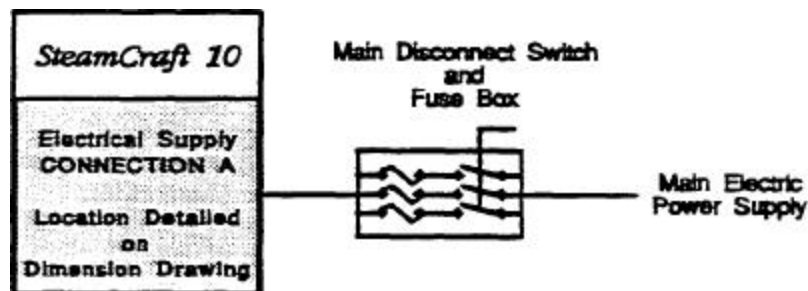

Figure 3-1. Main Disconnect Switch
3. Refer to the main disconnect switch in Figure 3-1, and turn on electric power to the SteamCraft 10.